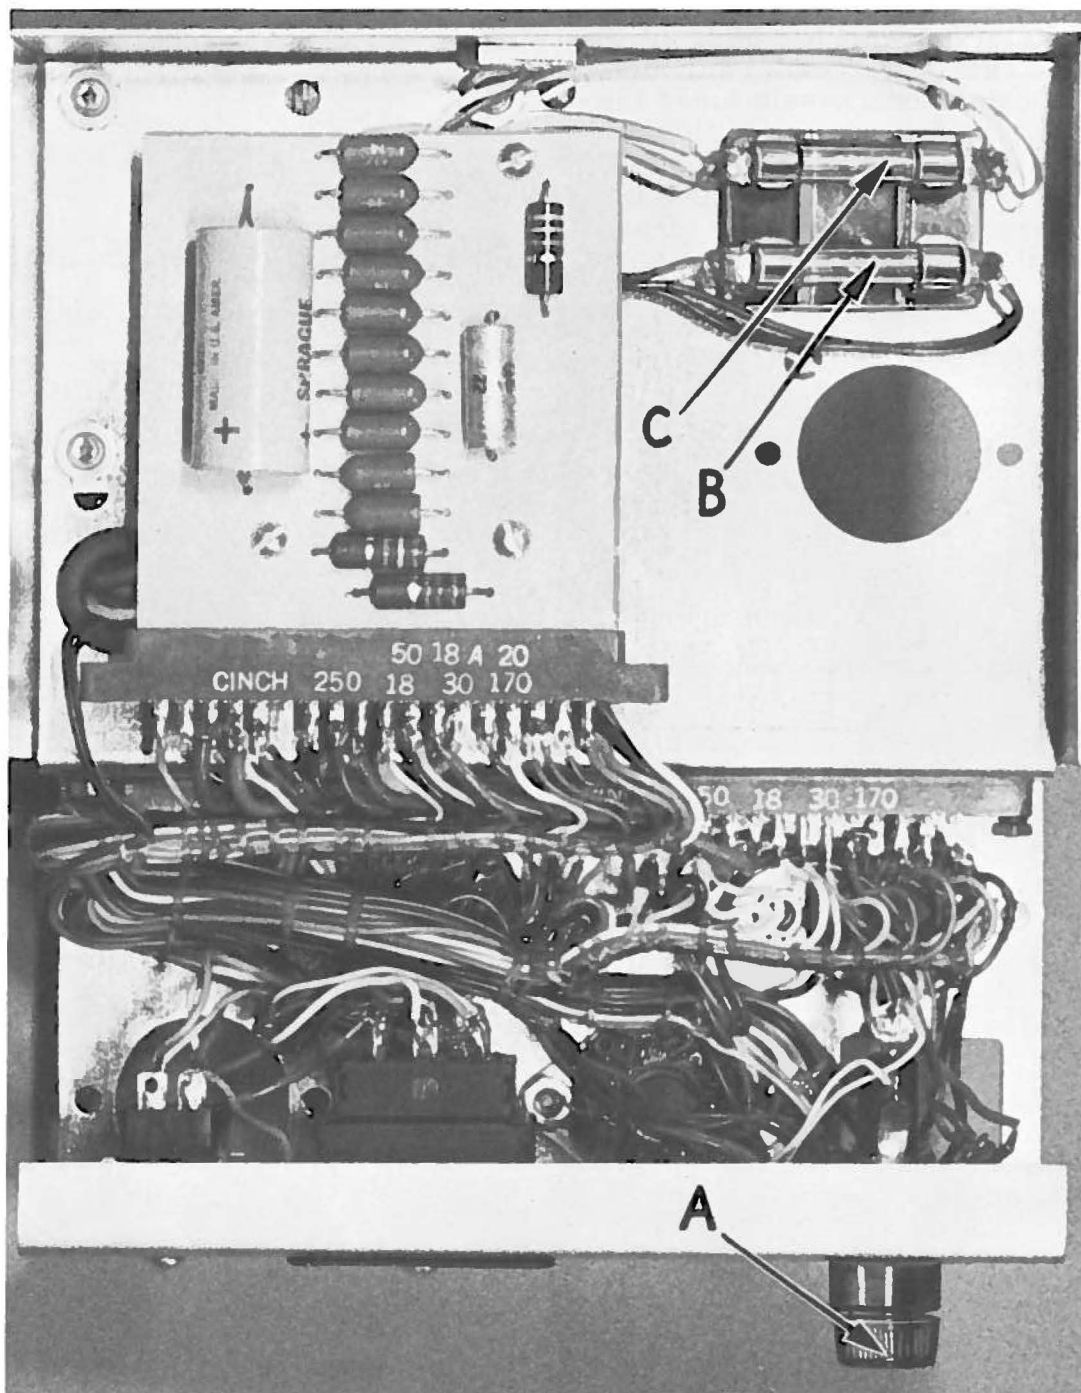

Fig. 40
The power pack incorporates a safety feature consisting of three (3) fuses of which two are of the slow blowing type and are rated 2 AMP at 250 V and the third a straight blow fuse rated 5 AMP at 250 V. The 2 AMP fuse (A, Fig. 40) located in the front panel fuses the AC input for the primary winding of the transformer as well as the input to the full wave rectifier. The 2 AMP fuse (B) located under the chassis fuses the output side of the full wave rectifier for the auxiliary motor. The 5 AMP fuse (C) located under the chassis fuses the output side of the rectifier for the thread wiper solenoid, (30 VDC) cutter solenoid, and the relay coil control circuit (24 VDC) .